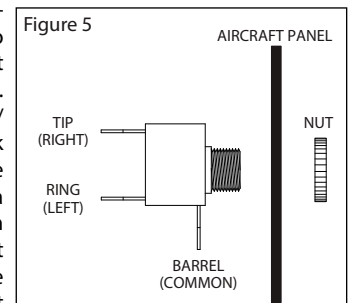
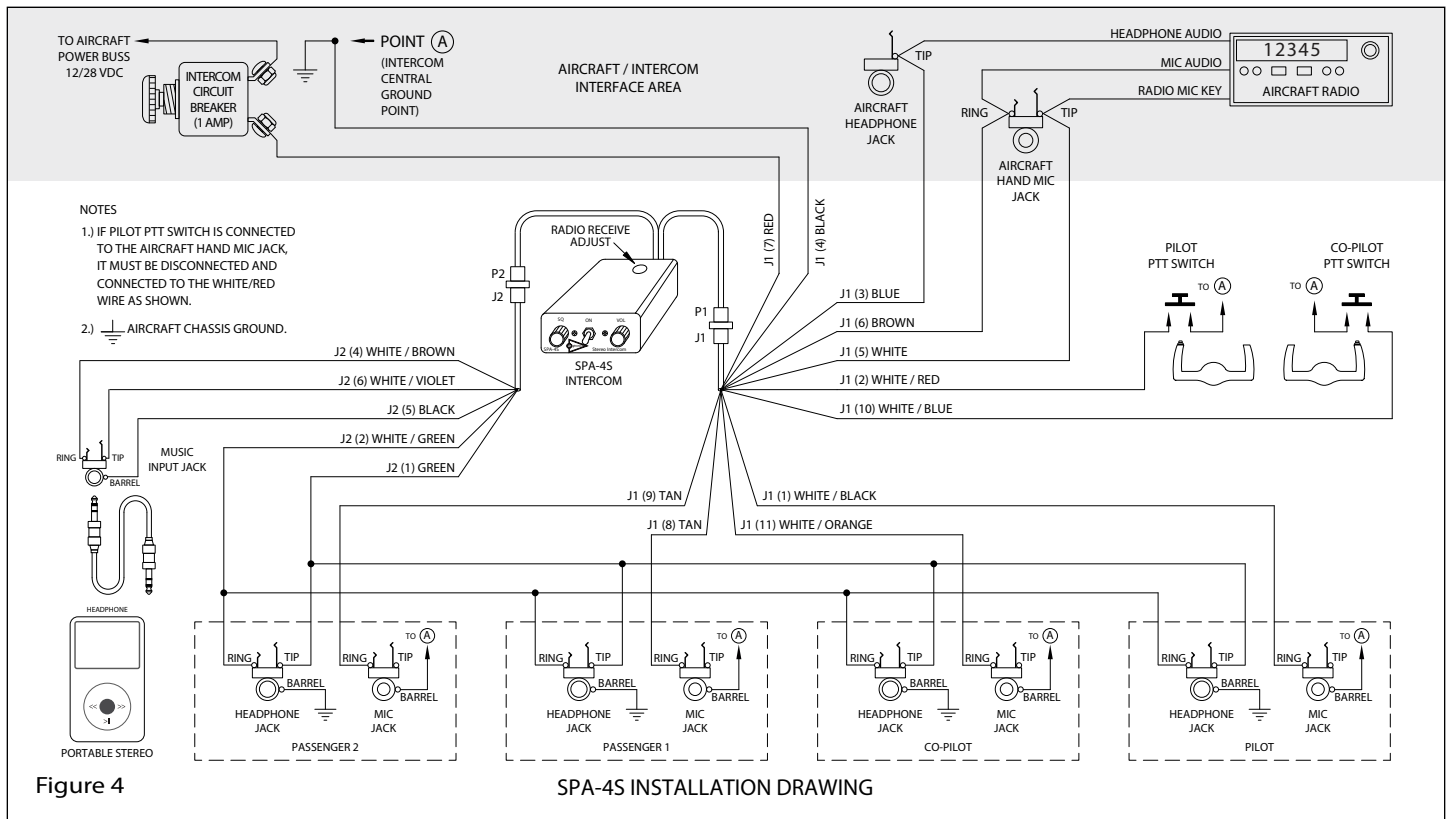

Figure 5
Figure 4
Connections should be made as shown in Figure 4 and indicated in Tables 1 and 2. Read also the referenced notes below. If longer wire lengths are required, use a good quality multi stranded hook-up wire - 22 gauge or larger. Although not necessary, shielded audio wire can be used if desired.
2. Connect all intercom mic jack grounds to a single aircraft chassis ground point - Intercom Central ground Point "A" - as shown in Figure 4. (Use the black washers supplied to insulate the intercom mic jacks from aircraft chassis ground). Note this intercom central grounding point is used to eliminate any unwanted electrical noises, such as alternator whine or strobe noise, from being induced into the intercom system through the grounds. All intercom mic jack barrels must be insulated from ground where they are mounted and connected back to Intercom Central Ground Point "A" on their own individual ground wire. Similarly, both intercom ground wires (J1 pin 4) and the push-to-transmit switch grounds must also be connected back to Intercom Central Ground Point "A". It is not necessary, however, to connect the headphone jack barrels to Intercom Central Ground Point "A". They can either be grounded where they are mounted or some place nearby.
Connect the White/Brown, White/Violet, and Black wires to one jack as shown in Figure 4. Identify the jack terminals using Figure 5. Drill a 1/4" hole for the jack and mount on the aircraft panel. To use, connect an adapter cable between the music input jack and the output
The wiring changes to an existing SPA installation are as follows. Re-wire the pilot, co-pilot, and passenger(s) headphone lines. You will not need the 4-foot intercom / aircraft interface cable (12 pin) that comes with the SPA-4S system. You will use the SPA harness already in the aircraft and the 4-foot headphone / music interface cable (6 pin). In a SPA-400 installation, the tip terminals of the pilot, co-pilot, and passenger headphone jacks are wired to the blue wire (pin 3). They need to be disconnected from there, the mono headphone jacks need to be replaced with the supplied stereo headphone jacks and connected to their respective pins on the headphone / music interface harness. (See Figure 4 on page 3) Make sure that the blue wire (pin 3) is still connected to the tip of the radio headphone line. Wire the music input as shown in Figure 4 on page 3.
NOTE: Make sure that the blue headphone wire from the original SPA-400 installation is not connected to the headphone jacks tip connection and is connected to the aircraft audio panel or radio as shown in figure 4 on page 3.
It may also be necessary to adjust the unit radio receive input from the aircraft radio. A small adjustable potentiometer is provided inside the unit for this purpose. It is accessible under a sticker on top of the chassis box (see Figure 4), and can be adjusted with a small blade screwdriver. In the event of low aircraft radio volume in the "ON" mode relative to "OFF" mode, an appropriate adjustment can be made. Clockwise rotation increases the input level to the SPA radio receive input. Counter-clockwise rotation decreases input level. This adjustment sometimes needs to be made after the initial installation of the intercom or if a new radio is installed that has a low output impedance or low output power. The adjustment is best made with all headsets plugged in. (The input is set full CCW which is unity gain for 500Ω radios). **Note:** Be sure to replace the sticker when you have completed the adjustment.